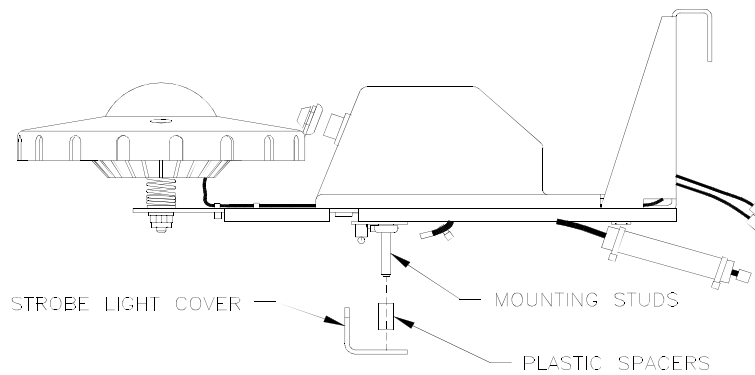

FIGURE 12
2. Slide Strobe Light Cover (p/n AFM-03-94783) and 45 degree Plastic Spacers (p/n AFM-HDW-SPCR45) off of the mounting studs. (See Fig.12)